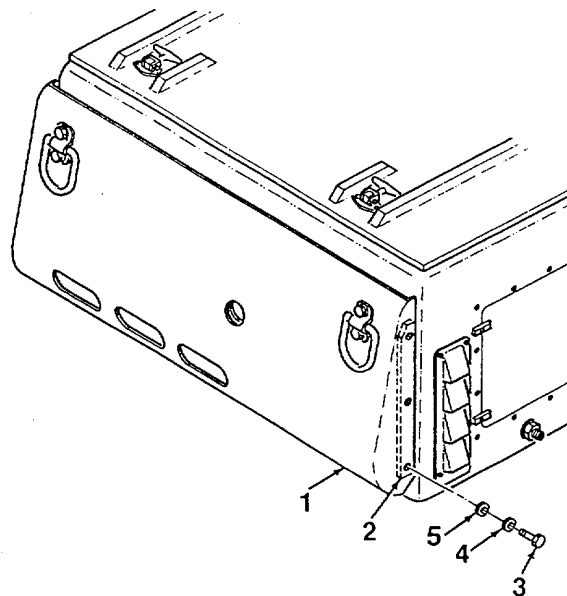

Figure 4-5. Nosepiece Assembly
1. Remove nosepiece assembly (1, Figure 4-5) from brackets (2) by removing six screws (3), lockwashers (4), and washers (5).
2. Remove insulation from rear of nosepiece (1) by removing caps. Discard caps.
1. Mate insulation to rear of nosepiece assembly (1, Figure 4-5) and secure using new caps.
2. Apply a thin bead of silicon adhesive to lip at top of nosepiece (1) that mates with enclosure. Apply adhesive to top 3 inches of lip on each side of nosepiece as well.
3. Mate nosepiece assembly (1) to brackets (2) and secure using six screws (3), lockwashers (4), and washers (5).